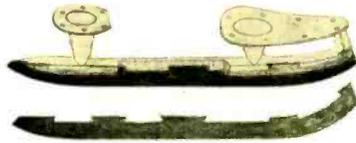

Fig. 4. Hardened steel runner in a skate cast in place.
(2) To provide greater hardness at localized points in the casting. Fig. 4 illustrates this application of inserts.